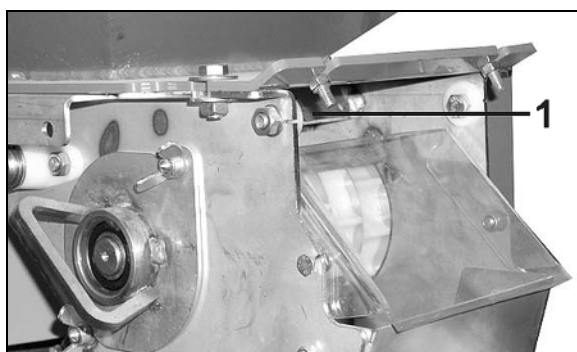

Fig. 57
2. Push the shutter (Fig. 57/1) until its stop into the metering unit.